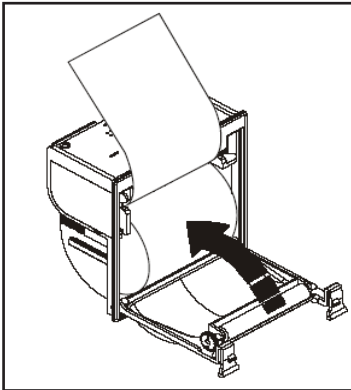

Fig. 59: Completing installation
3. Pull the paper out of the housing as shown in Fig. 59 and close the lid.